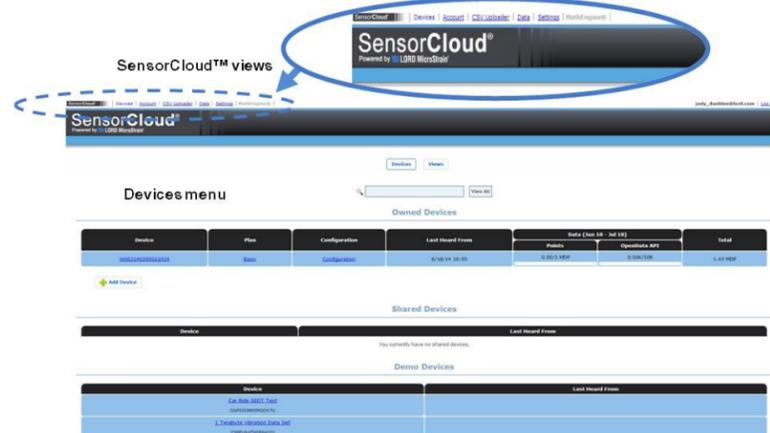

Figure 18 - SensorCloud™ Device Menu
**Device** management, SensorCloud™ **Account** management, data **Uploader**, **Data** viewer, SensorCloud™ **Settings**, and data analysis with **MathEngine®**. When logging in as a registered user, the Device view is the default view. Navigate to other views by clicking the view name at the top of the page (*Figure 18 - SensorCloud™ Device Menu*).